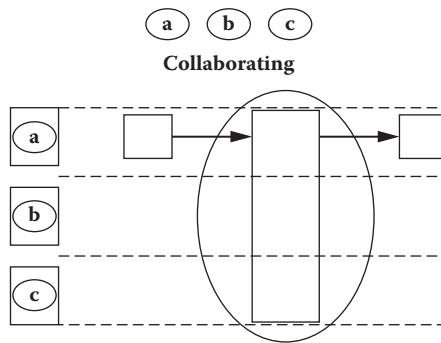

Figure 5.10 Pattern of a collaborative activity between (a), (b), and (c).
- When several entities jointly perform the *same* activity, draw the box so that it includes all the entities involved (Figure 5.10). Solid lines show shared involvement or *collaboration*. Dotted lines show that one or more entities are *not* involved with the activity.